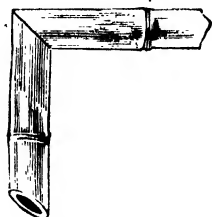

Fig. 37.—Mitre Joint in Bamboo.
**Joining Bamboos.**—The joints used in bamboo work are only a few in number. For joining the ends of two canes together at right angles, in all cases a mitred joint is the most satisfactory and easiest in working, and should be adopted wherever practicable, leaving the bends for flowing lines and curves. In forming a mitred joint, the ends of the two canes are plugged with pieces of wood which are glued in. When the glue is quite hard, the mitres are cut on a mitre block or in a mitre box with a tenon saw, and the two sawn surfaces then are placed together, glued, and further secured by fine nails or brads, in the way shown by Fig. 37. When a piece of bamboo is to be joined to another piece at right angles to form a T, the end of one piece is rasped out to fit the curvature of the other